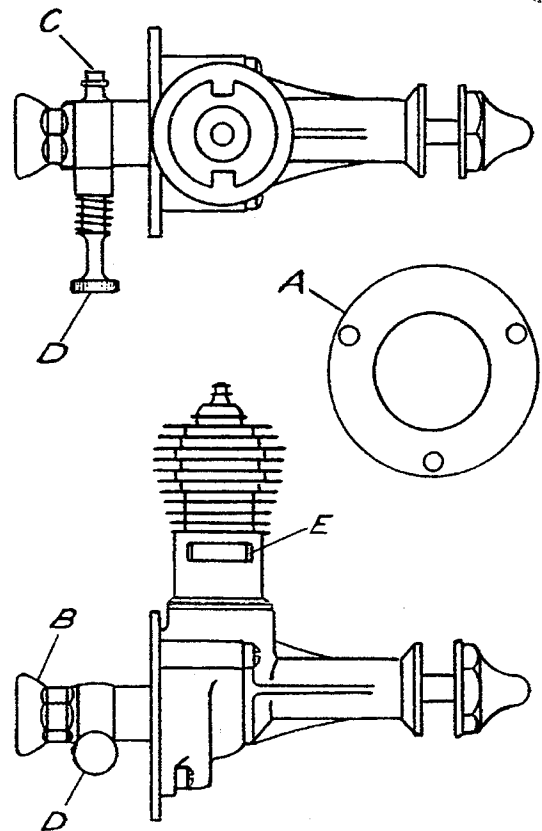

FIG. 1 FULL SIZE
2. Mount the engine in the plane or, if you want to give it some running first, mount it on a narrow board, , about 2" wide and fasten the other end of the board in a vise or nail it to something. **Do not hold the engine directly in a vise.** Use as a template, A-Fig. 1, to drill mounting holes and carburetor hole. **The screened nut, B-Fig. 1, in the rear is the air intake hole and must be left open.**
carburetor by slipping the fuel line over the fuel fitting. C Fig. 1.
1. Close the carburetor needle valve, D-Fig. 1, by turning it clockwise till it stops. Do not force it.
5. Turn the propeller to the position so that the ex-haust ports E-Fig. 1 are wide open. Squirt 5 or 6 drops of fuel into the cylinder through one of the port openings. This is called priming.
3. If the engine fires with a burst of power then dies repeatedly after each time it is primed, and this is not cured by opening the needle valve more, the fuel jet is stopped up. If the engine has not been run for some time it is likely that it is only stopped up with castor oil. Choke the engine by holding a finger over the intake, B-Fig. 1, and